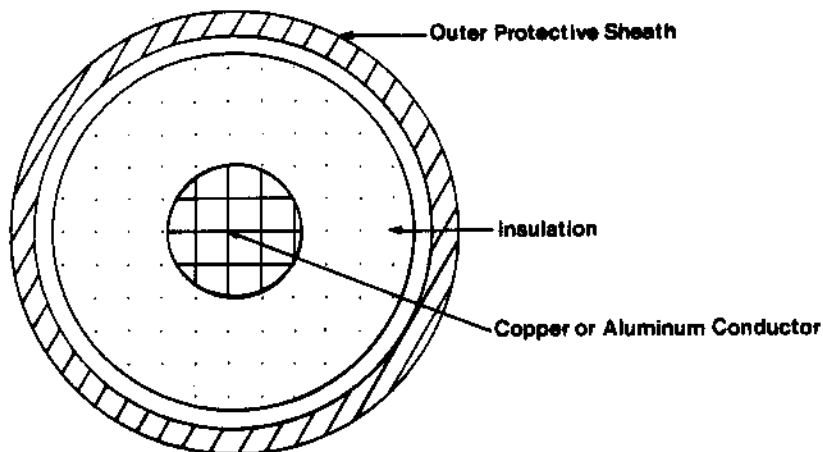
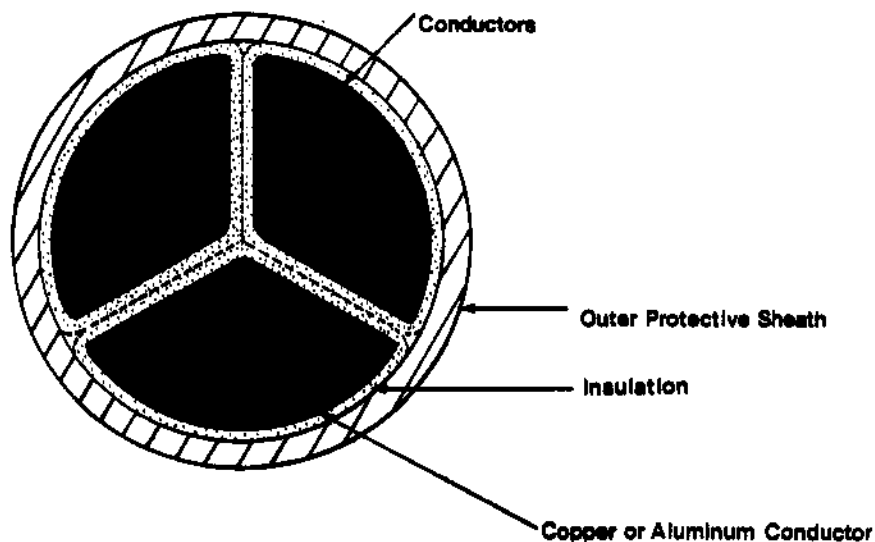

Figure 4: Section of a Single Phase HV Cable.
Figure 5: Section of a 3 Phase HV Cable.
- 3.4.1 Construction. Modern cables, rated at 600 V and below are plastic insulated. At 4160 V the insulation can either be plastic, or paper and oil. Above 4160 V paper and oil is usually used. Figure 4 shows a section of a single phase HV cable, Figure 5 shows a cross section of a three phase HV cable.